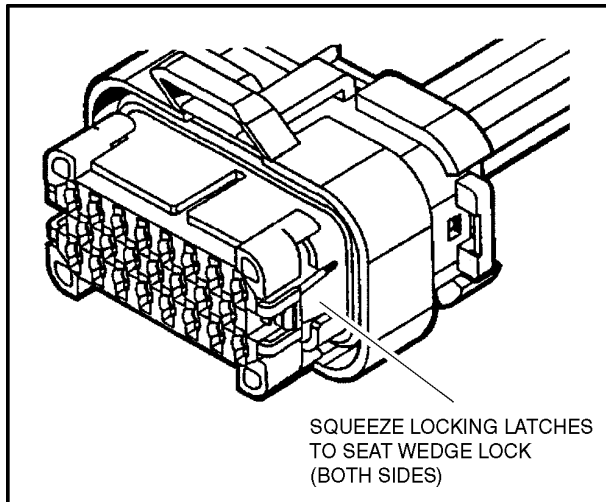

Figure 8-8. Connector Assembly (3 of 4)
3. After all required contacts have been inserted, the wedge lock must be closed to its locked position. Release the locking latches by squeezing them inward (See Figure8-8. Connector Assembly (3 of 4)).